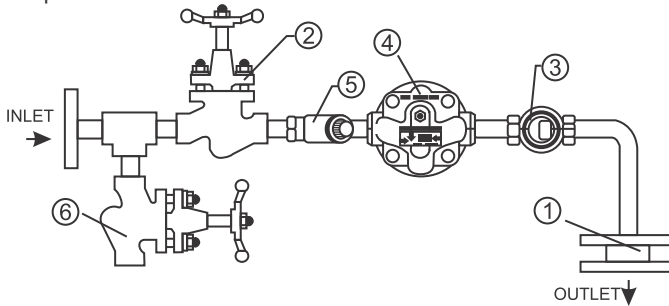

Figure 4: Single Orifice Float trap module
5. Installation Guidelines: (Refer to Figure 4, 5, and 6)
6.1 Flushing of Lines (Refer to Figure 4)
6.2 Commissioning: (Refer to Figure 4)